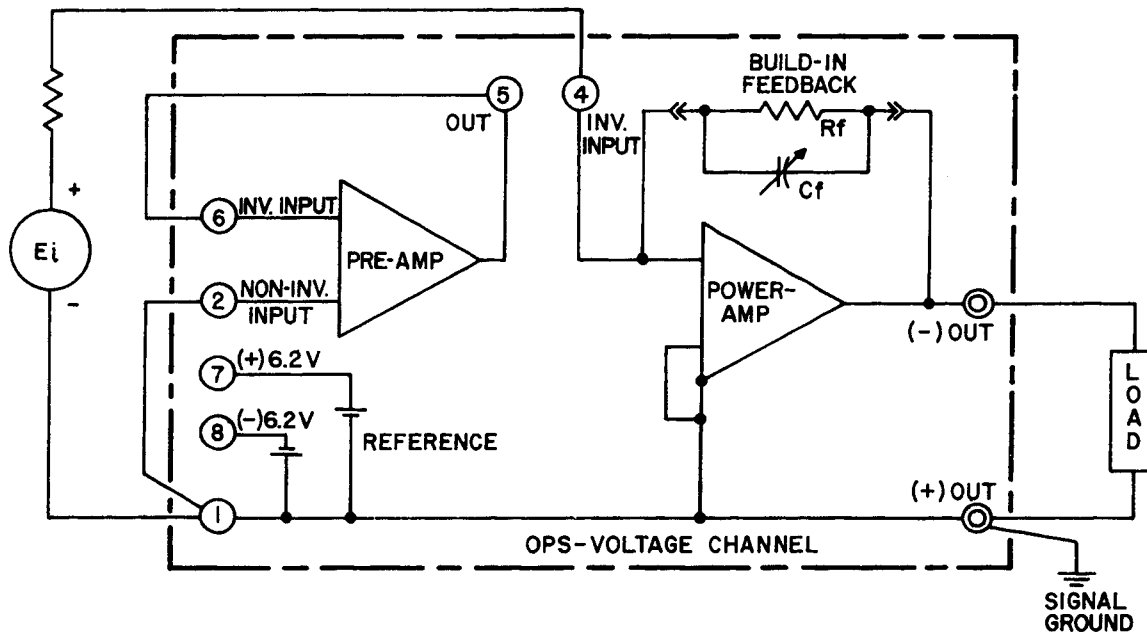

FIG. 3-2 EQUIVALENT DIAGRAM, OPS VOLTAGE CONTROL CHANNEL CONNECTED FOR DIRECT VOLTAGE PROGRAMMING.
- 3-6 DIRECT VOLTAGE PROGRAMMING. This control method is suitable for control voltage sources which, for the full OPS output voltage and with the built-in fixed feedback resistor, are able to supply at least 1 milliampere of control current via the series input resistor to the INVERTING INPUT of the POWER AMPLIFIER. (See FIG. 3-2.)